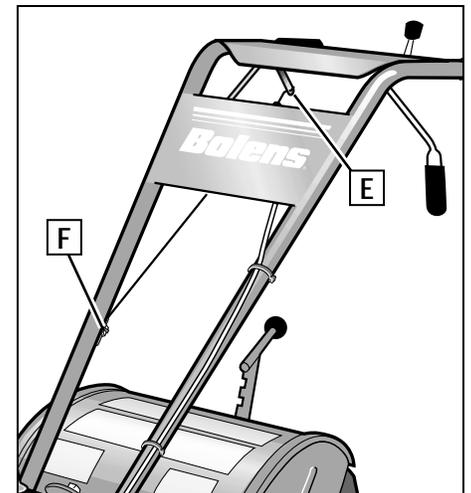
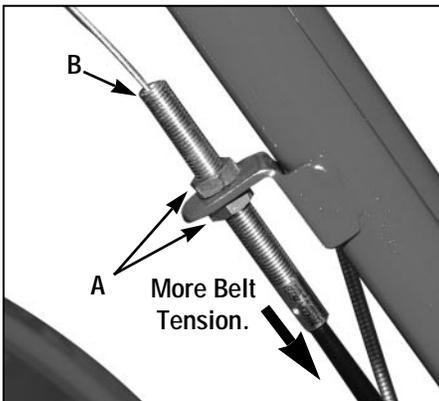

Figure 5-11: Location of forward clutch cable spring (E) and forward cable adjuster (F).
Figure 5-12: Move forward clutch cable adjuster down for more belt tension.
2. Belt adjustments are done with the forward clutch cable adjuster (F, Figure 5-11). Use two 1/2", open-end wrenches to loosen the two jam nuts (A, Figure 5-12) a few turns.
3. Move cable adjuster (B, Figure 5-12) downward for more belt tension (see Figure 5-12).